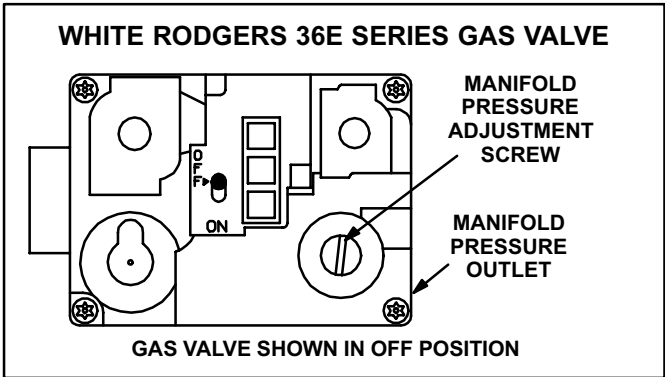

FIGURE 15
Inlet and outlet pressure taps are located on the valve. A regulator adjustment screw (figures 15 and 16) is located on the valve.
- 6 - *White Rodgers 36E Gas Valve* -- Switch lever to **OFF**. See figure 15.